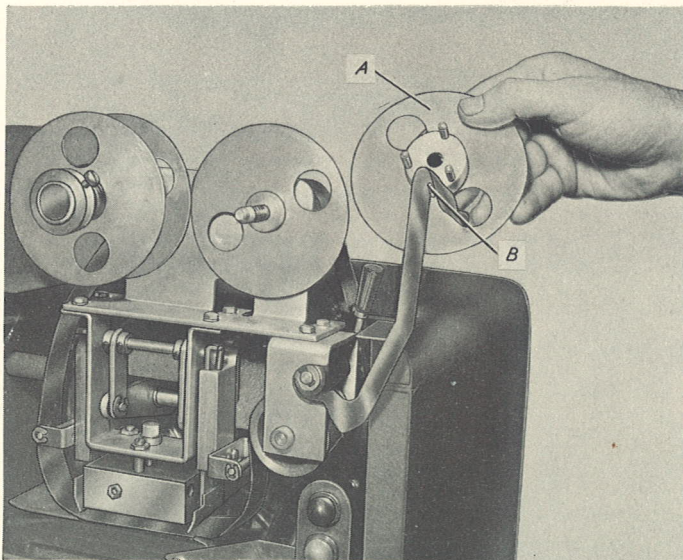

Figure 12
6. Loop the end of the foil over the pin 12B in the rewind guide plate as shown in Figure 12 and replace the guide plate. Be sure that the guide plate is located in the position which corresponds with the width of tipping foil being used.